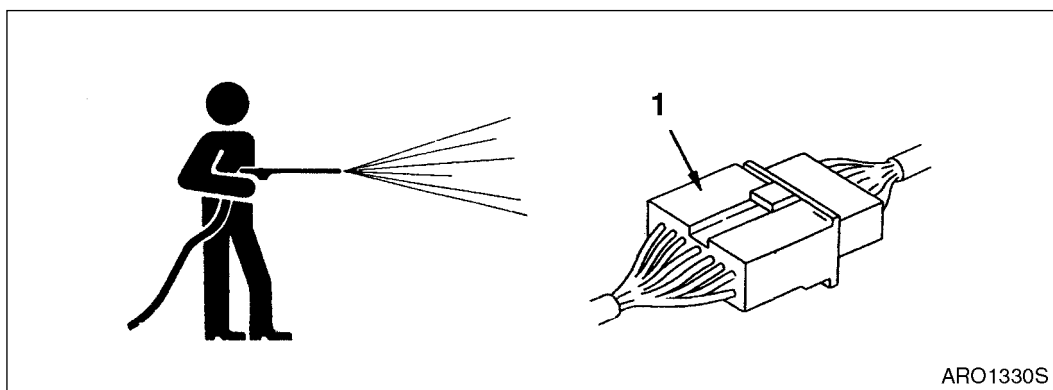

Figure 25
- Do not spray water directly on electrical components (sensors, connector) (1, Figure 25). If water gets into the electrical system, there is danger that it will cause defective operation and malfunction.